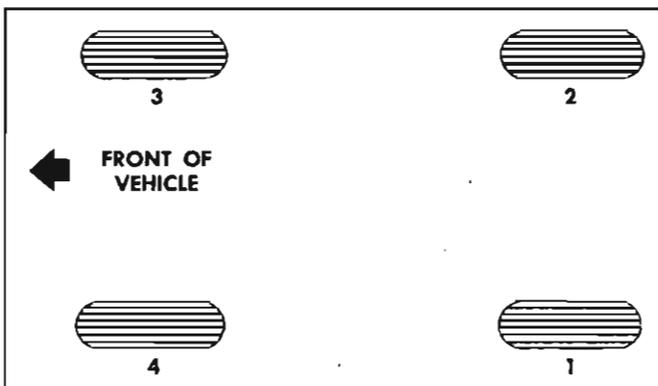

Fig. 5-3—Proper Bleeding Sequence
8. Repeat Steps 3 through 7 at the remaining wheel cylinders in the proper bleeding sequence. (See Figure 5-3.)